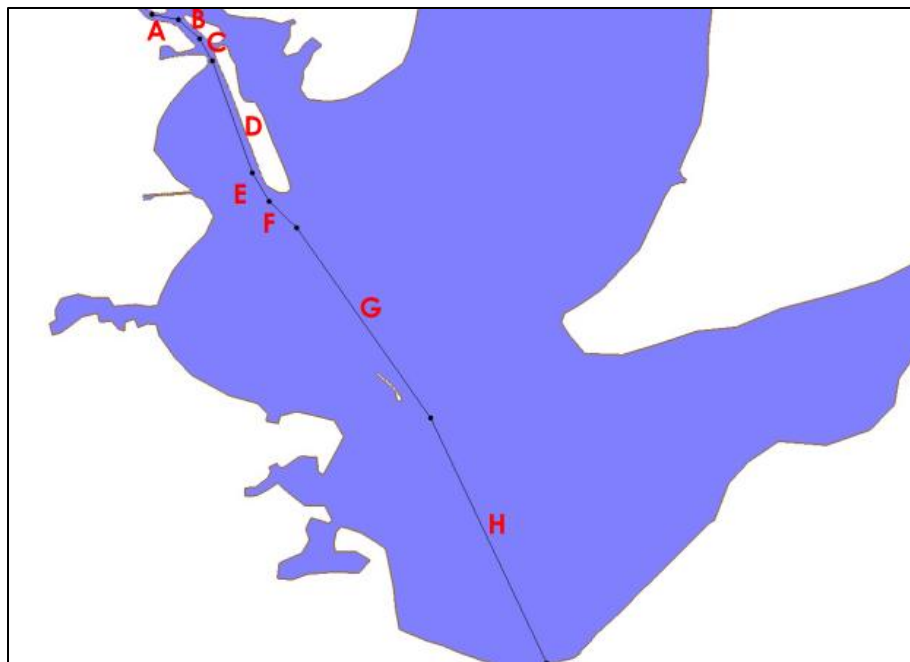

Figure 2 First boat path with labeled arcs
10. Using the **Create Feature Arc**  tool, create eight arcs as shown in Figure 2.
11. Right-click the bottommost arc (labeled H in Figure 2) and select **Assign arc attributes...** to open the *Arc Properties* dialog.
16. Right-click the second bottommost arc (labeled G in Figure 2) and select **Assign arc attributes...** to open the *Arc Properties* dialog.
16. Right-click the second topmost arc (labeled B in Figure 2) and select **Assign arc attributes...** to open the *Arc Properties* dialog.